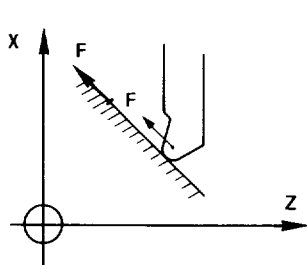

Fig. 1
- In radius compensation mode (G41 – G42), the programmed feed rate (F), applies to the tip centre path. (see Fig. 1).